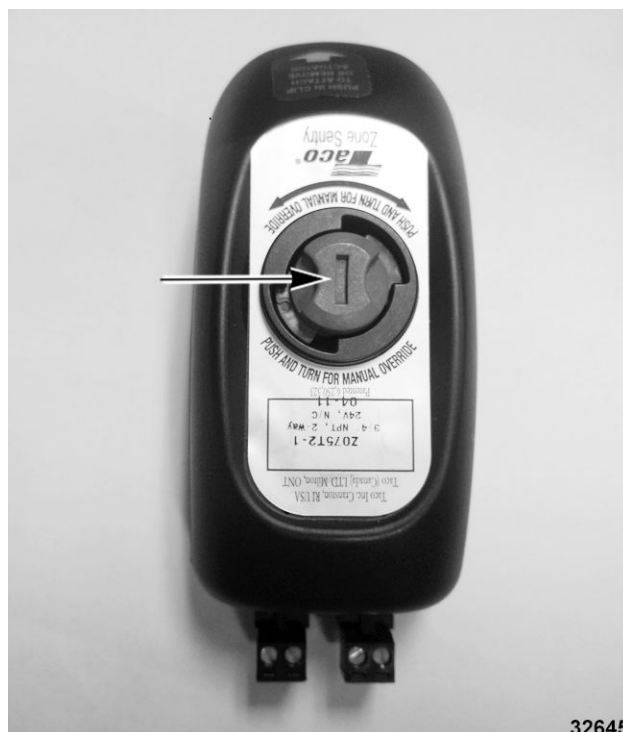

Fig. 45
- A. Push in and turn knob 90° counterclockwise to open (Fig. 45).